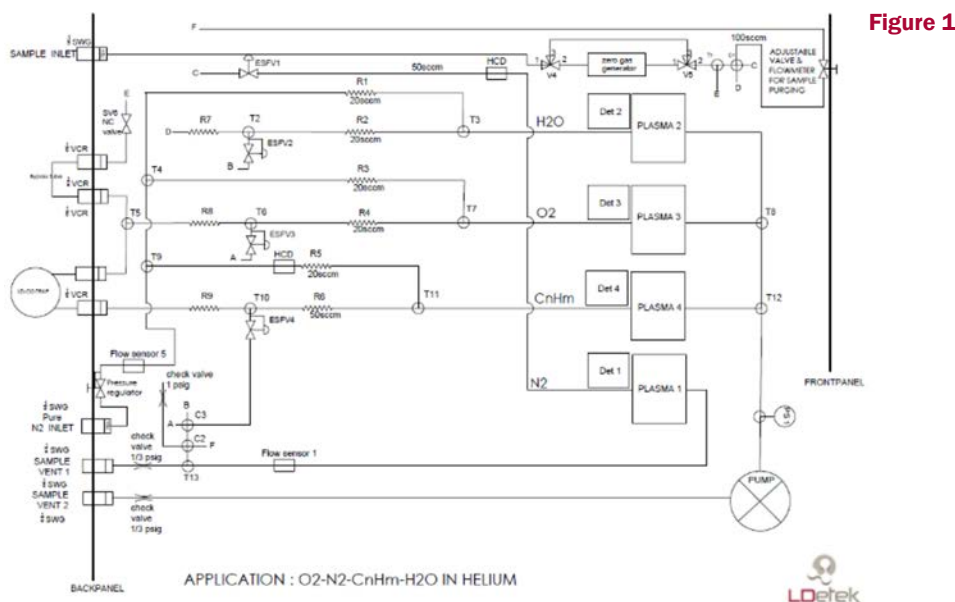

Figure 1
Figure 1 shows an installation where the required measurement must be configured for the following ranges (low to high ppm configuration):
Figure 1 demonstrates an instrument configured as follows:
- The N₂ doping input is required since the trace measurement of N₂ can reach 300ppm. The N₂ doping is then applied to the PEDs used for H₂O-O₂-CnHm measurement to eliminate the interference from the nitrogen beyond 10ppm. The nitrogen flow is generally controlled to the same value as the helium sample flow. We therefore speak of a ratio of 50% He / N₂. Figure 1 shows a value of 20sccm for 20sccm nitrogen. Total nitrogen consumption for the instrument is therefore 60ml/min. The nitrogen flow rate is controlled by static orifices pre-adjusted to a defined pressure. To ensure the stability of the nitrogen flow, a mini pressure regulator is mounted on the instrument as well as a pressure flow sensor. This assembly ensures the stability of the nitrogen flow rate which is very important for maintaining the N₂-He mixture equilibrium in the plasmas.